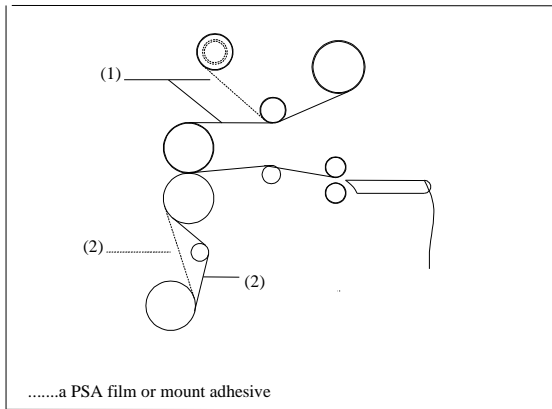

Fig. 11
1. Cut (1) remaining top film web between the idler bar and heat roller. Cut (2) the film web between the lower film supply and the idler bar (Figure 11).